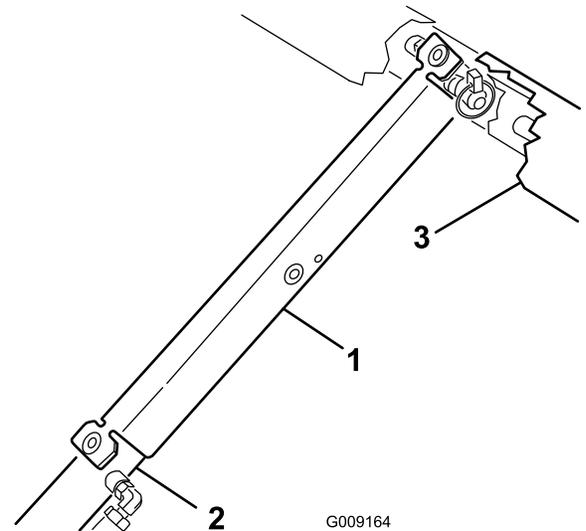

Figure 32
3. Push the bed support onto the cylinder rod, ensuring that the support end tabs rest on the end of cylinder barrel, and on the cylinder rod end (Figure 32).